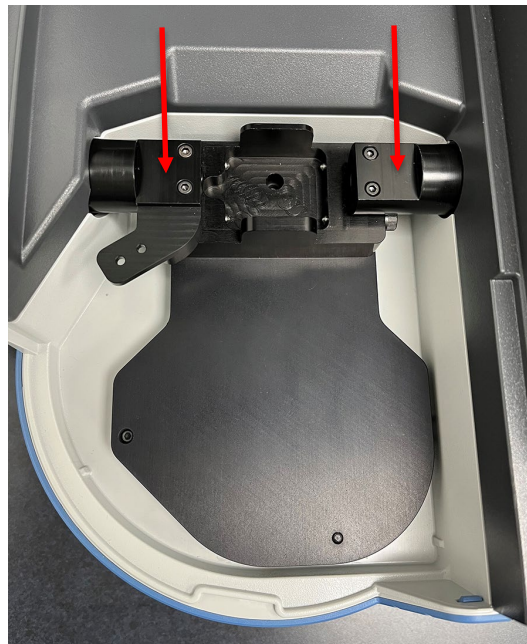

Figure 8: Baseplate and beam tubes installed.
9. Install the beam tubes using the 3/32" driver tool. Ensure the beam tubes fit into the GENESYS 30 lens cavities without interference. See *Figure 8*.
10. The baseplate and beam tubes are installed. See *Figure 8*.